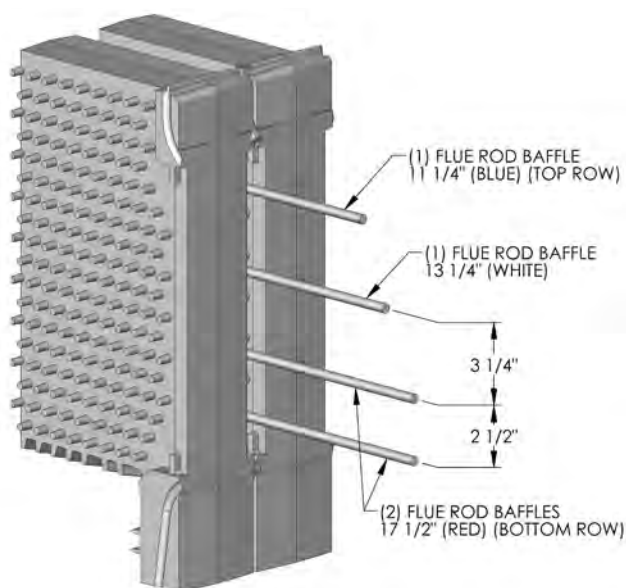

Figure 2.2: Flue Rod Baffle Locations
14. Remove clean-out cover plates and insulation (7). Each clean-out cover plate is attached to the boiler by using two carriage bolts, nuts and washers (6). Install the carriage bolts into the notch at the top and bottom of each clean-out opening, then secure them with a flat washer and steel nut as shown in Figure 2.2 locking them into place. Press the clean-out plate with insulation over the protruding carriage bolts until the bolts punch through the insulation so a flat washer and brass nut can be installed. Tighten down nuts snugly compressing the insulation to form a good seal around the clean-out opening.
2. Install Flue Rod Baffles in each flueway as shown in Figure 2.2.